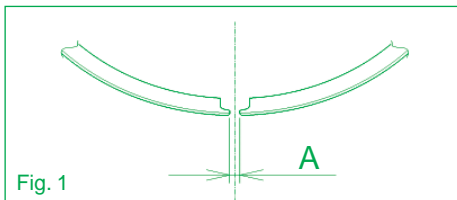

Fig. 1
- c) using a feeler gauge, measure the gap at piston rings ends; minimum gap: $A = 0.15$ mm see fig. 1.